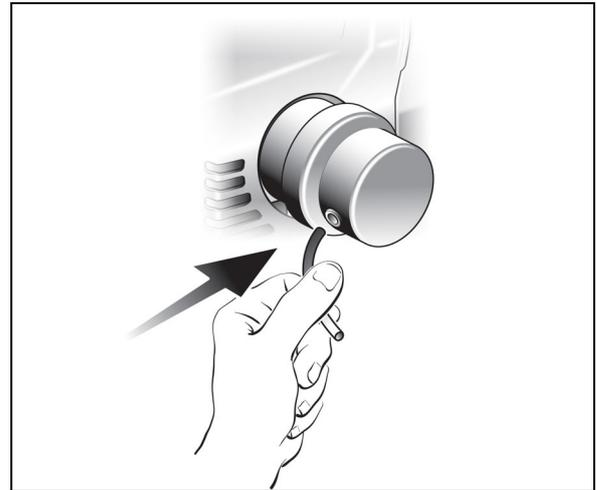

Fig. 6: Mounting the air filter
Step 2: If supplied, insert the small suction hose into the filter cover (Fig. 6).